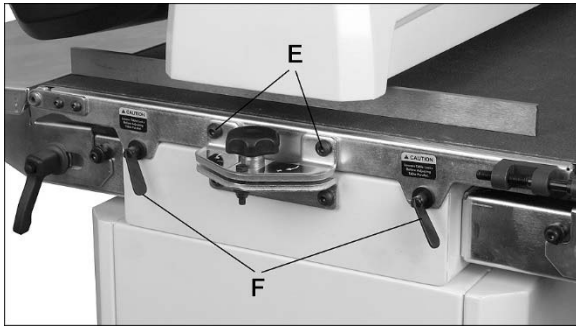

Figure 10-3: conveyor belt replacement
5. Remove two (2) screws at inboard side which attach conveyor table to base.
6. Remove two (2) screws that attach conveyor table to drum alignment bracket (E, Figure 10-3).
7. Loosen two table locks (F, Figure 10-3).